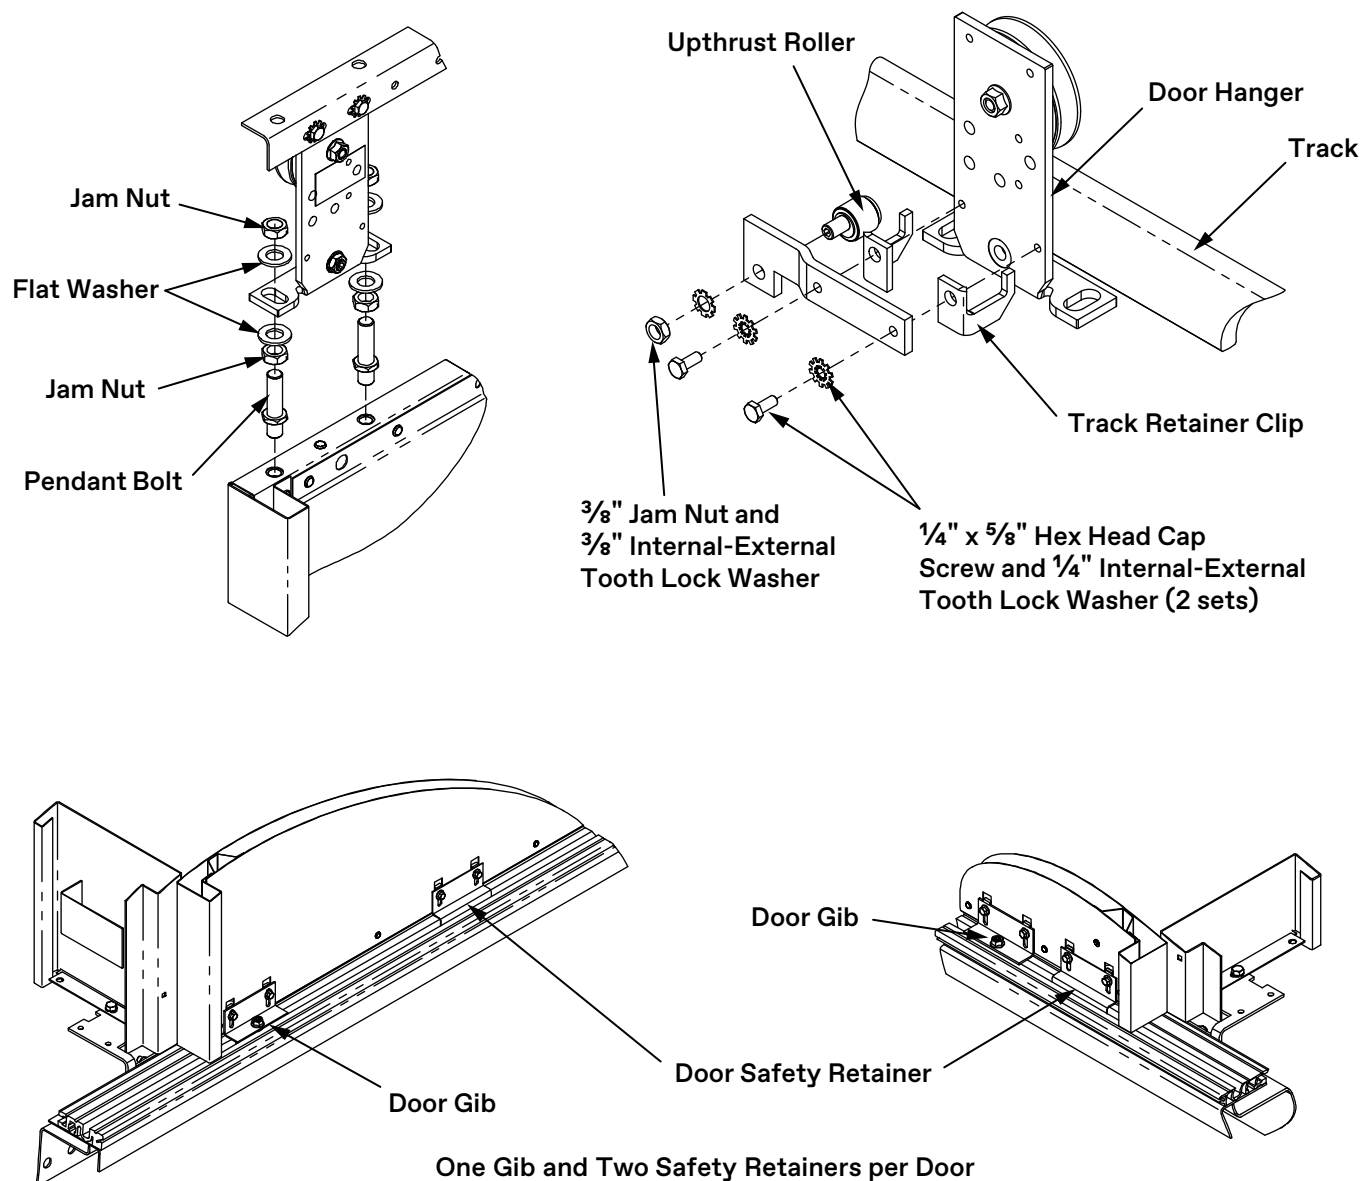

Figure 45 - Mount Hoistway Doors
3. Install pendant bolts in the top of the doors and tighten. See Figure 45.